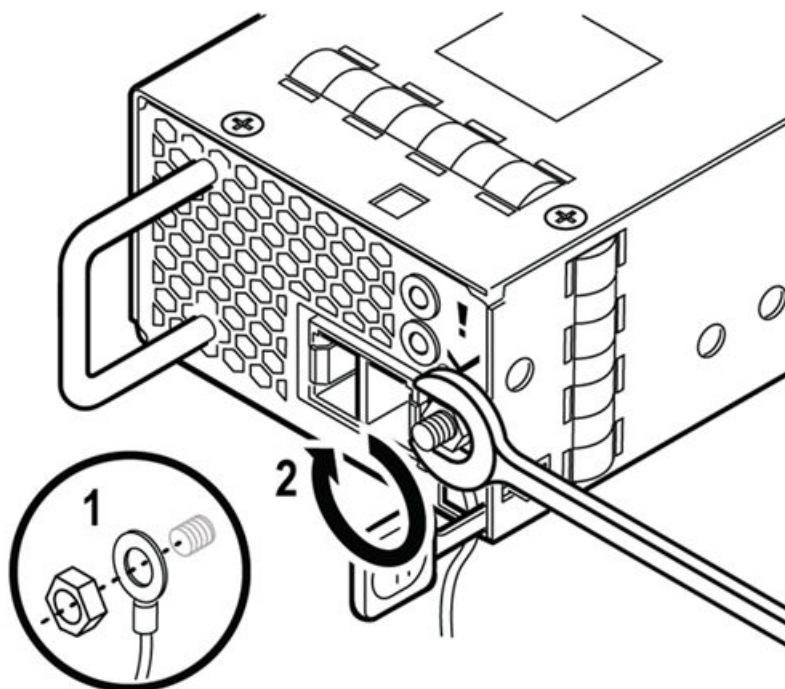

Figure 193: Securing the Ground Wire
- b. Slide the ring terminal of the ground wire onto the grounding post (callout 1 in Figure 193).
See Figure 193 on page 261.